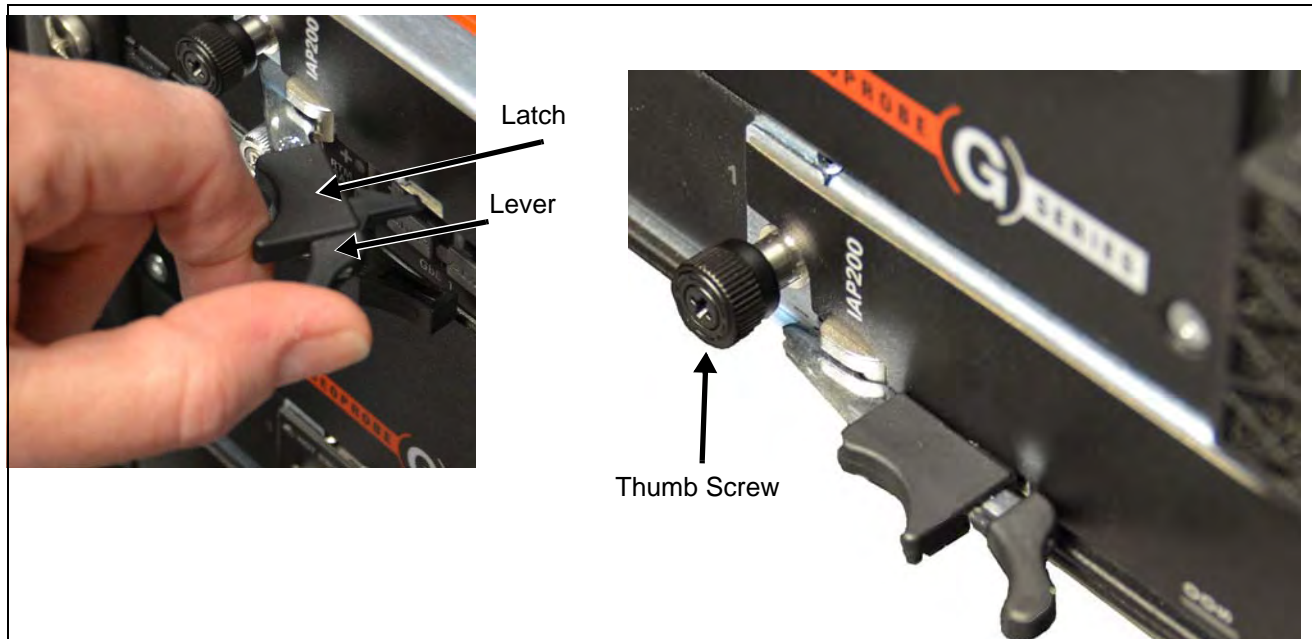

Figure C.21 - IAP Insertion
4. While squeezing the handle's lever and latch together, close the left and right ejector handles until the inner sides of the ejector handles are attached to the faceplate (**Figure C.21**).